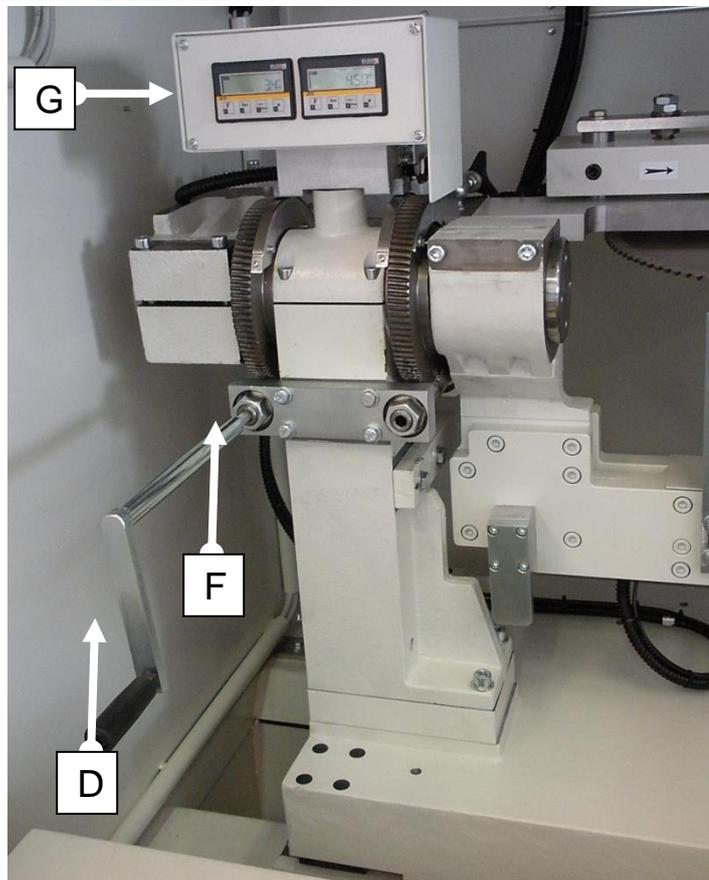

FIG.8A
- Insert spanner D (Fig.8A) in seat F (Fig.8A) and turn it to the required tilting, which can be read on display G dedicated to the horizontal saw blade (Fig.8A).